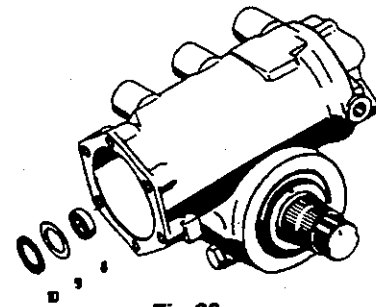

Fig.32
Press shaft seal (8) in as far as possible with tool [14] (*Fig.32*).